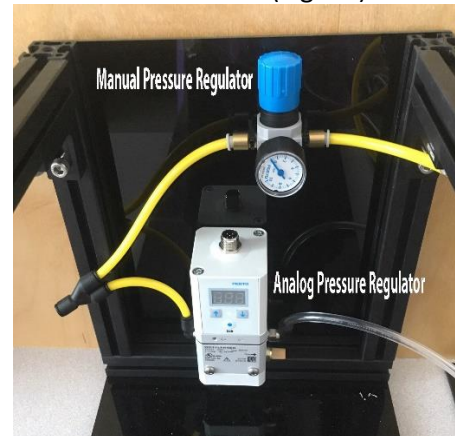

Fig.1.5
- Two pressure regulators are mounted on the back side of the enclosure (Fig.1.5).